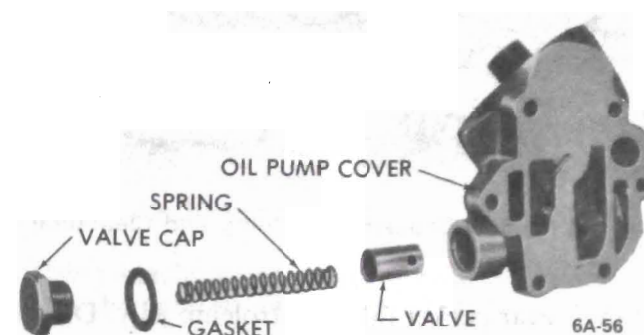

Figure 6A-56 - Oil Pump Cover and Pressure-Relief Valve
4. Remove the oil pressure relief valve cap, spring and valve. See Figure 6A-56. Oil filter by-pass valve and spring are staked in place and should not be removed.